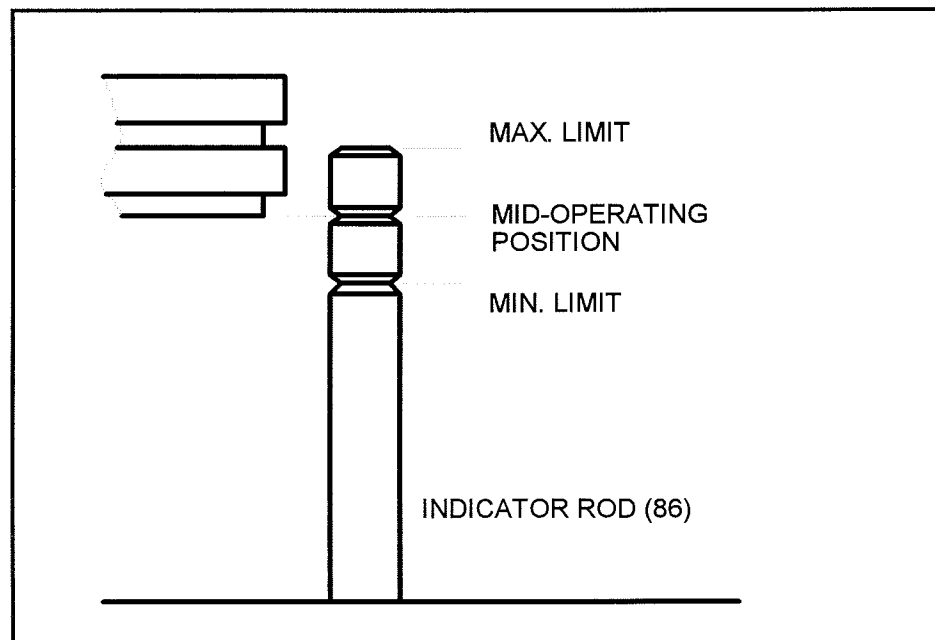

FIGURE 6.2
- 6.2 Use the Handpump (57) to generate the initial pressure up to 1000 psi/70 bar, for higher pressure screw the Capstan (24) in. When the Piston rises, ensure the bottom face of the lowest weight is level with the groove, midway in the recessed area on the Indicator Rod (63). See Figure 6.2.